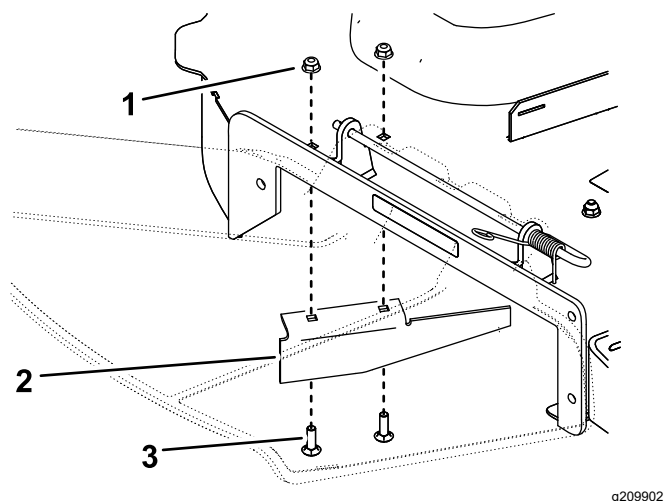

**Рисунок 7**
**Примечание:** For 48-inch and 54-inch decks use the rounded-edge-discharge baffle; for 36-inch and 60-inch decks use the square-edge-discharge baffle (Рисунок 7).